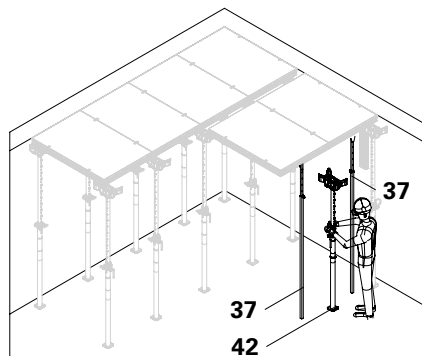

Fig. D2.14c
3. Place the slab prop with DBH backpropping head (**42**) at the end of the panel in an inclined position from the inside and align outwards. Spacing 1.50 m. (Fig. D2.14c)
4. Remove the DUO shuttering aid (**37**) and replace it with a DBH backpropping head (**42**). (Fig. D2.14c)